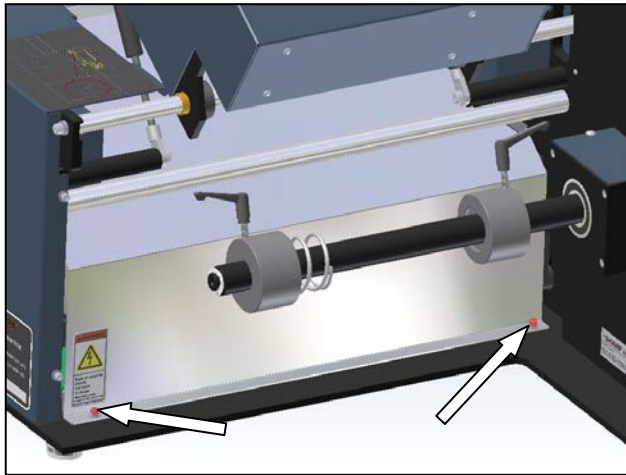
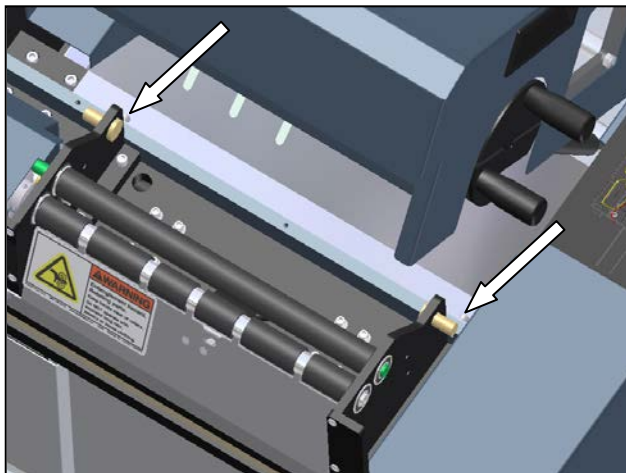

Figure 3-27. Motor Cover Rear Screws
Figure 3-28. Motor Cover Front Screws
1. Remove the two rear screws and the two front screws from the Motor Cover (Figure 3-27 and Figure 3-28).